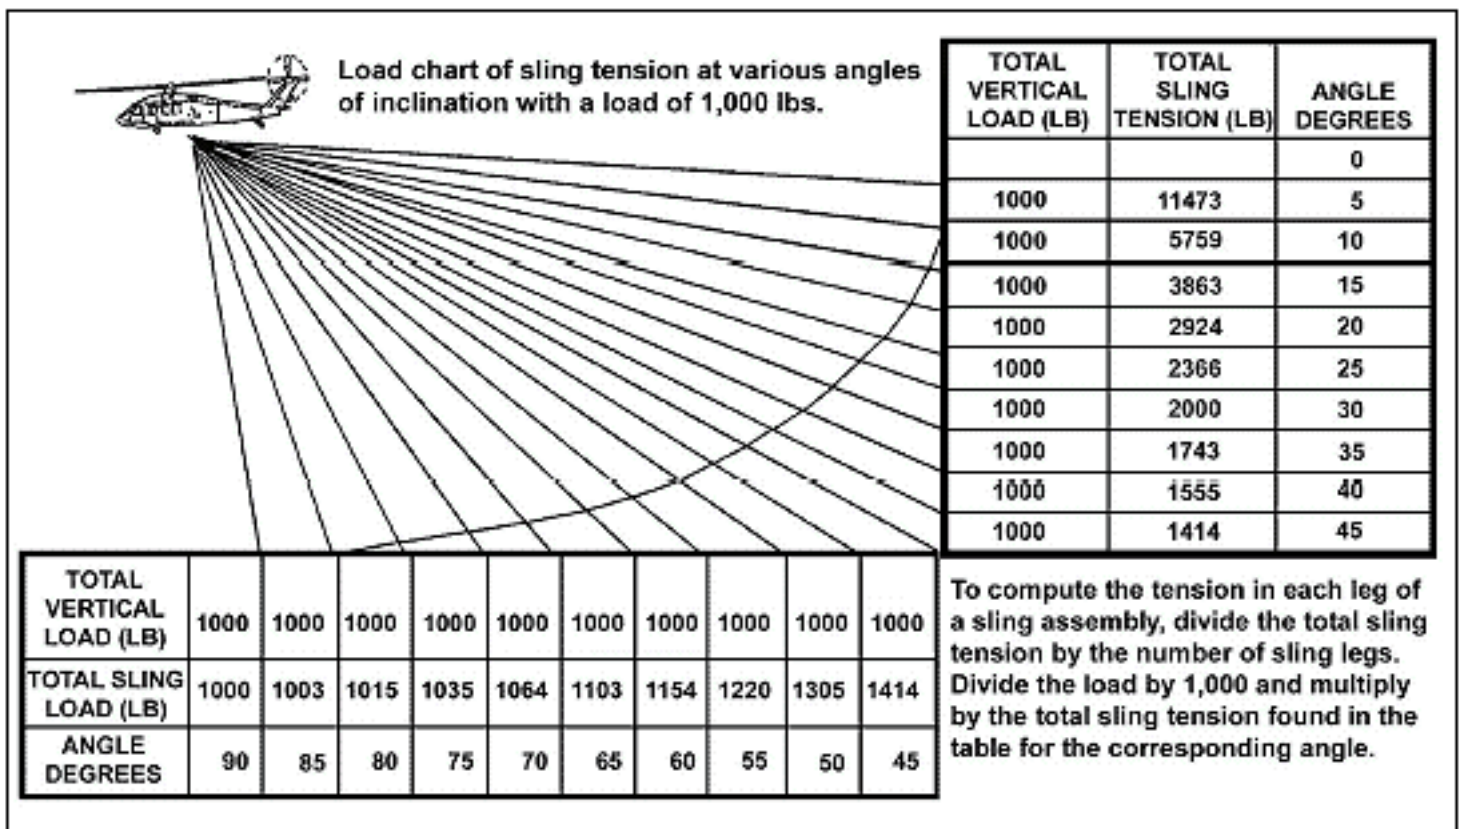

Figure 5-16. Load chart of sling tension at various angles of inclination with a load of 1,000 pounds.
d. **Sling Length.** Lengthening the slings that attach the load to the aircraft reduces the load's stability in flight. The shorter, the better, as long as the sling measures at least 6 feet long. Also, the more vertical the attached sling, the less stress on those that are more horizontal. Figure 5-16 shows how sling angle affects load stress.